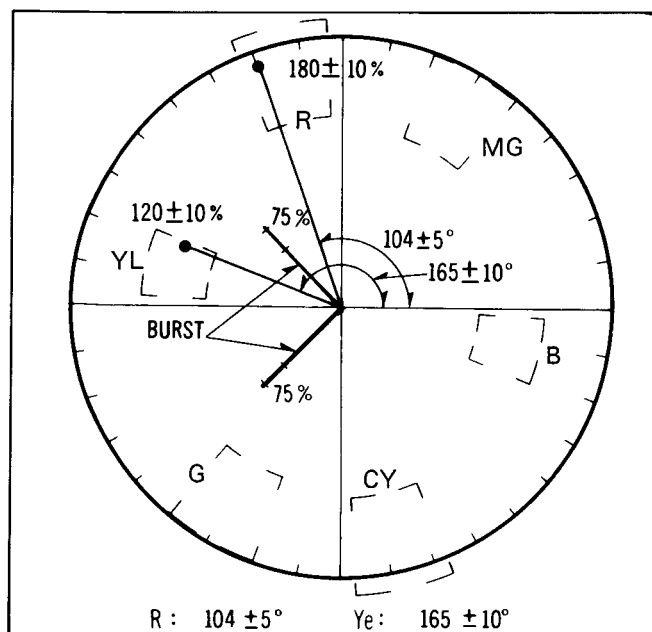

Fig. C22
- (1) Connect a jumper wire between TP4, TP5 and TP6.
- (2) Aim the camera at a colour chip chart.
- (3) Supply the video signal to the vectorscope.
- (4) Adjust the Colour Phase Control (VR303 and VR324), the R-Y Gain Control (VR316) and the B-Y Gain Control (VR317) so that the vector of each colour is as shown in Fig. C22.
- (5) Remove the jumper wire between TP4, TP5 and TP6.